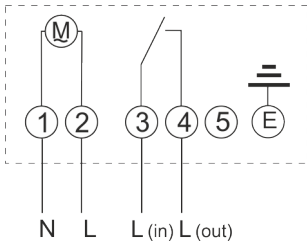

Fig. 10: Voltage-free connection CI7
18. For voltage-free connection CI7: Insert the connection wires into the corresponding terminals in accordance with the relevant wiring diagram (Fig. 10) (N = neutral conductor; L = live conductor) (Fig. 10).